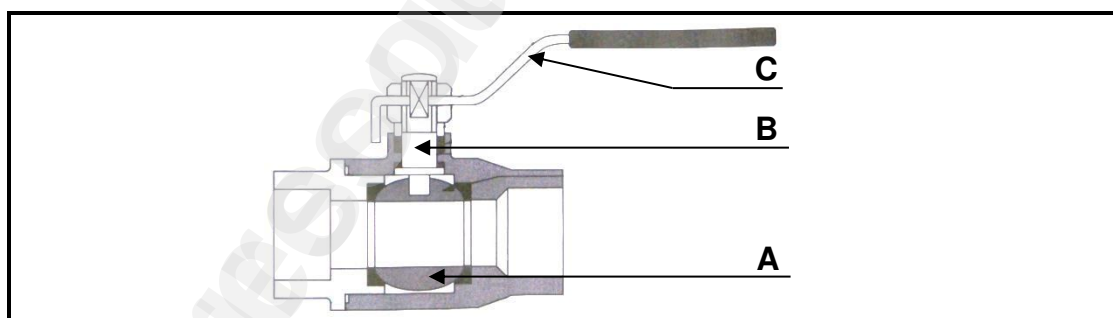

FIGURE 4.2
- 4.2 Answer the following questions with regard to the valve in FIGURE 4.2.
- 4.2.1 Name the valve in FIGURE 4.2. (1)